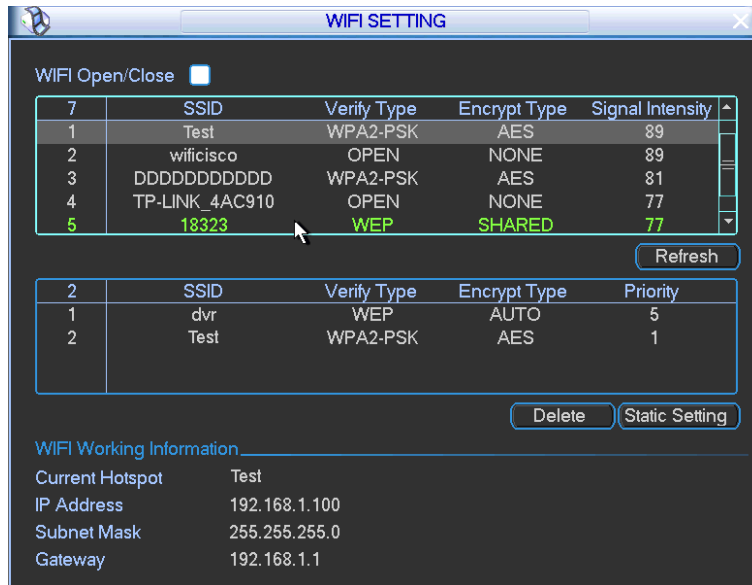

Figure 5-30
- WIFI working information: After system successfully connected to WIFI, you can view hotspot name, IP address, subnet mask, default gateway and etc. See Figure 5-30.